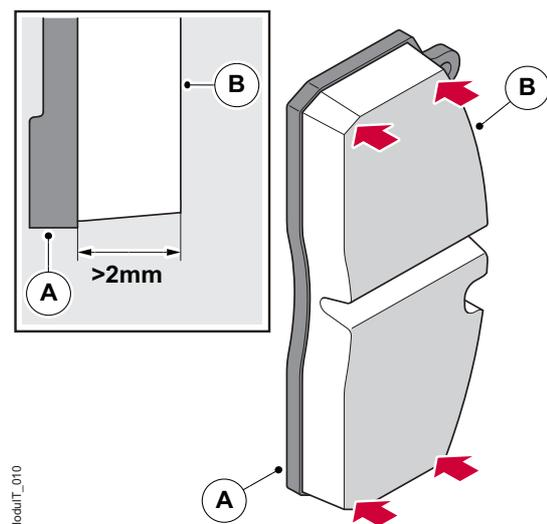

Figure 15. Measuring the pad wear condition
5. On both brake pads measure the distance from back plate (A) to wear surface (B) of the brake pad in four places, see figure 15. Minimum permitted lining thickness (friction material) is 2 mm.
7. Check the condition of the back plate (A).